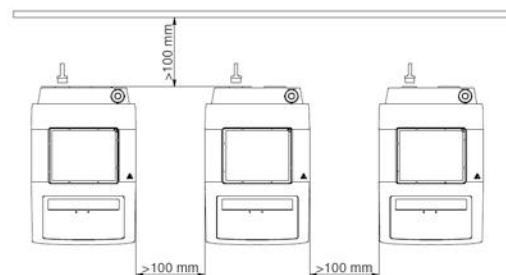

Fig. 2
- Observe the minimum distances between the devices, between the device and the wall and above the assembly (min. 800 mm), see **Fig. 2**.